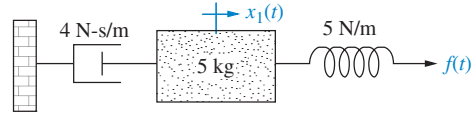

FIGURE P2.9
24. Find the transfer function,  $G(s) = X_1(s)/F(s)$ , for the translational mechanical system shown in Figure P2.9. [Section: 2.5]